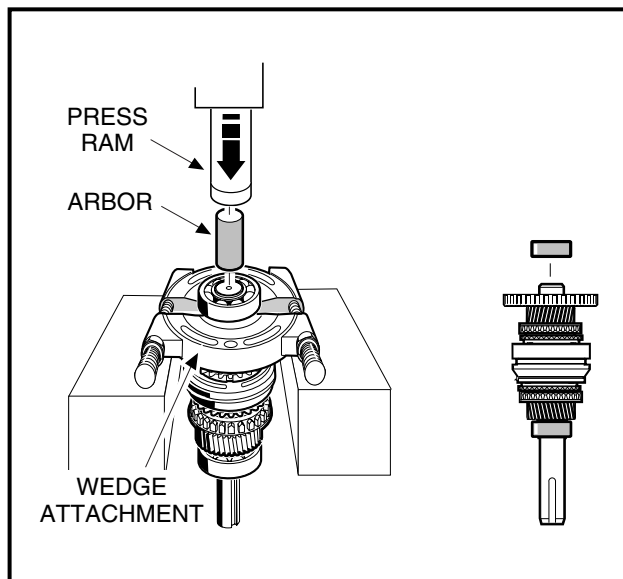

Figure 7-20 Remove Bearing
- 1.1. Place a bearing puller wedge attachment (CCI P/N 1012812) between the bearing (41) and spur (governor drive) gear (43) (**Figure 7-16, Page 7-9**), then press the bearing off the input shaft (54) as shown (**Figure 7-20, Page 7-13**). See preceding **CAUTION**.
- 2.1. Place a bearing puller wedge attachment (CCI P/N 1012812) between the sealed bearing (81) and spur (governor drive) gear (43) (**Figure 7-17, Page 7-10**), then press the bearing off the input shaft (84) as shown (**Figure 7-20, Page 7-13**). See preceding **CAUTION**.